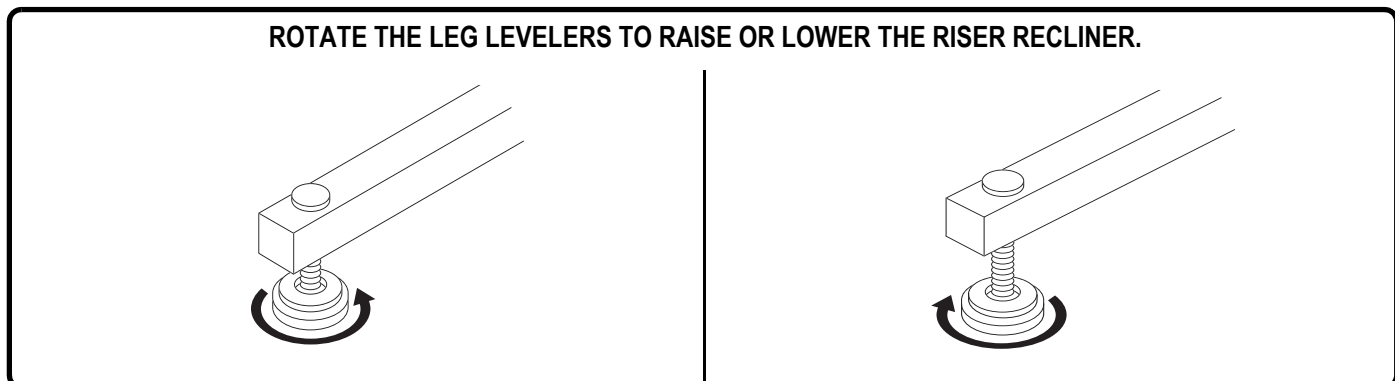

Figure 3.3 Leg Levelers
Leg Levelers: Manually rotate up or down in order to stabilise the recliner before use (**Fig. 3.3**).
2. Adjust the leg levelers to stabilise the riser recliner (**Fig. 3.3**).